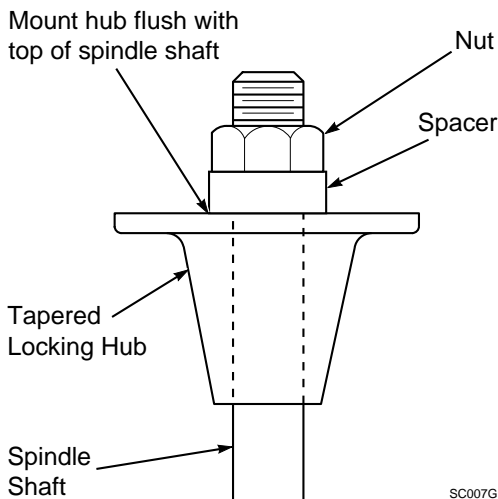

Figure 2
- Mount the double pulley from grass catcher assembly carton to the right side spindle. The pulley should be flush with the top of the spindle shaft. See Figure 2. Remount the right spindle belt to the bottom slot in double pulley and tighten belt to proper tension.